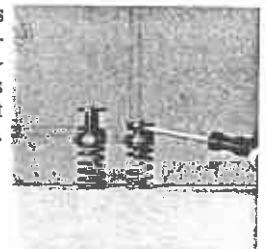

Figure 3
Turn the spring (38) and the nut (42) anticlockwise until the end of spring (38) is almost in contact with the flat of the top spring guide (43). See also 2.1 Figure 3 above.